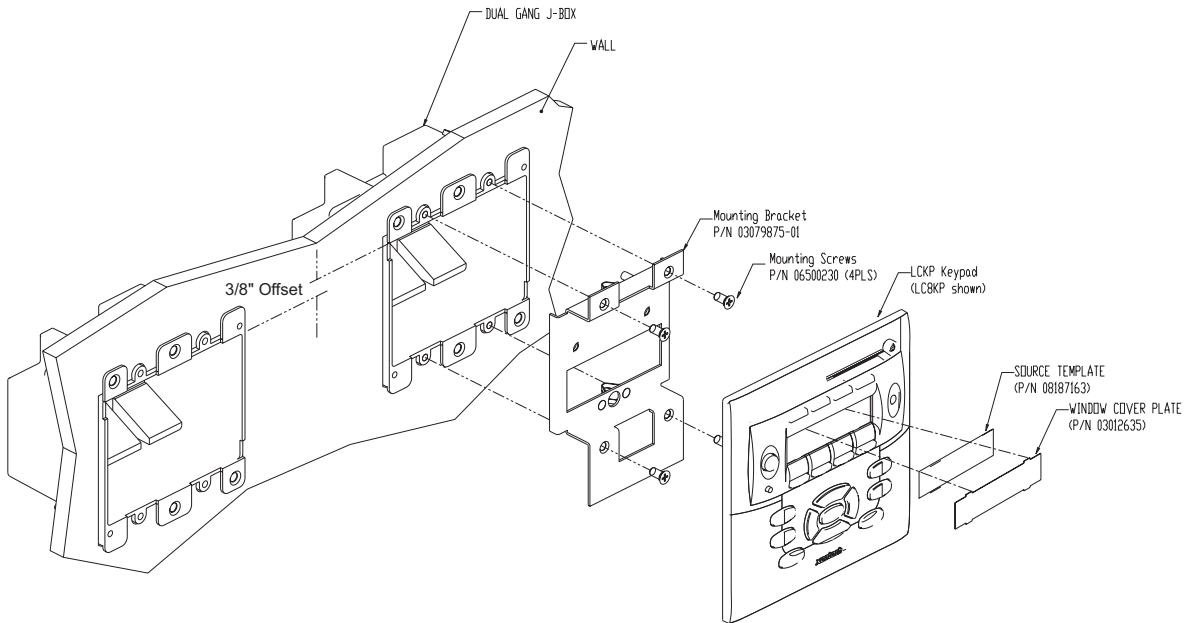

Figure 1: LCKP Keypad Mounting Diagram
2. Affix LCKP Mounting bracket (P/N 03079875-01) to the Dual Gang J-Box as shown in Figure 1 above using four 8-32 screws (included).